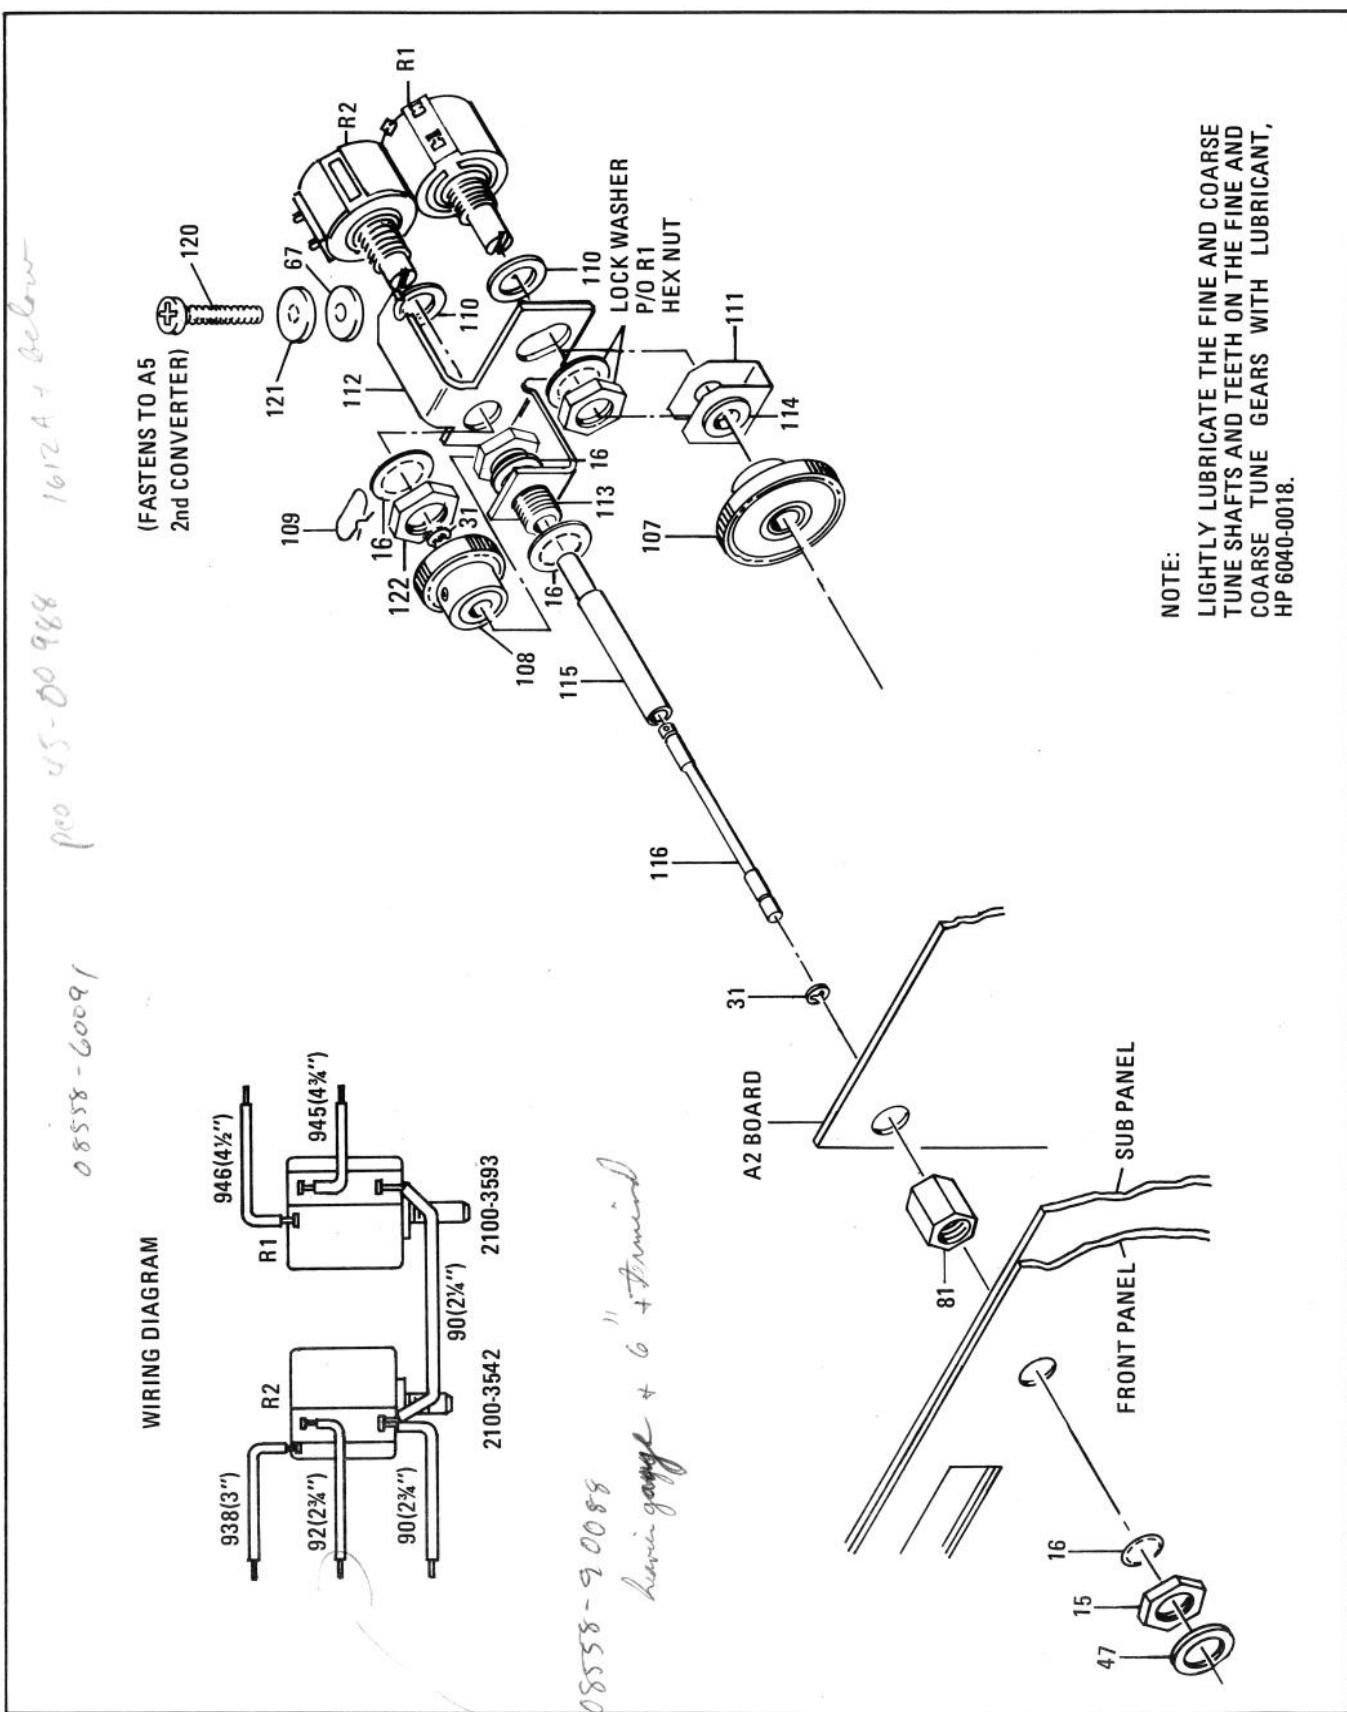

Figure 1. Two Pot Gear Drive Timing Assembly
Refer to Figures 6-3 and 7-5 (change D) Front Panel Assembly, Pages 6-29 and 7-7, in 8558B Operating and Service Manual, HP 08558-90043, dated October 1977 and Figure 1. Two Pot Gear Drive Tuning Assembly of this Service Note.
14. Refer to Figure 1. Two Pot Gear Drive Tuning Assembly for parts breakdown of tuning assembly, place lock washer (16) on coarse tune shaft bushing (113) and place coarse tune shaft bushing (113) through proper hole in dual pot bracket (112).
15. Place lock washer (16) over coarse tune shaft bushing (113) on front side of dual pot bracket (112).
16. Place long hex nut (81), removed in step 13, on coarse tune bushing (113) and tighten with fingers only.
17. Lightly lubricate fine tune shaft (116) and coarse tune shaft (115) with suggested lubricant (HP Part Number 6040-0018) or a light grease.
18. Place retaining clip (31) in groove on fine tune shaft (116) near end without hole. Insert fine tune shaft (116) into coarse tune shaft (115) from larger diameter end of coarse tune shaft (115).
19. Insert dual shaft assembly (115/116) through threaded end of coarse tune shaft bushing (113).
20. Place 40-tooth spur gear (108) over end of coarse tune shaft (115). With 40-tooth spur gear (108) held as far as it will go on coarse tune shaft (115), tighten set screw in gear with number 4 (.050 inch) Allen driver.
21. Place retaining clip (31) in groove on fine tune shaft (116) near end of shaft with small hole.
22. Insert straight end of universal coupler spring (109) in small hole near end of fine tune shaft (116) and snap universal coupler spring (109) into place.
23. Place flat washer (110) over shaft of fine tune pot R2 (short shaft). Make sure flat washer (110) is seated tightly over collar near body of fine tune pot.
24. Insert fine tune pot R2 through round hole in rear side of dual pot bracket (112) and place lock washer (16) and 1/2 inch OD hex nut (122) over shaft of fine tune pot.